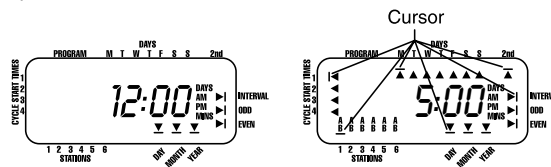

FIGURE 3: LCD Display with Surrounding Information
- Turn the rotary dial to the **TIME/DATE** position [See Figure 3].
- A blinking cursor will appear below the arrow for the year, month, and date when programming [See Figure 3].